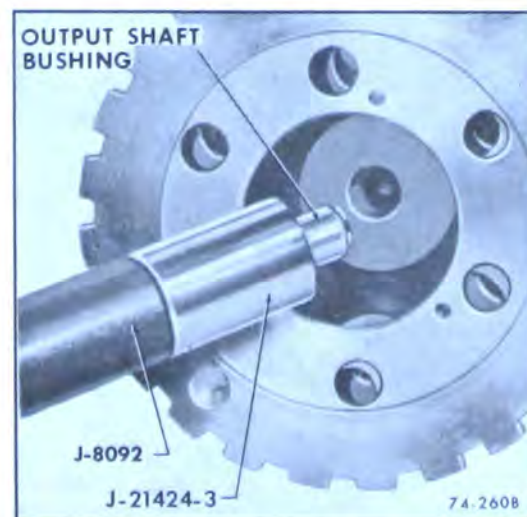

Figure 74-260
1. Using Tool J-21424-3 and J-8092 press the new bushing in until J-21424-3 touches the machined surface of the planet carrier assembly. See Figure 74-260.